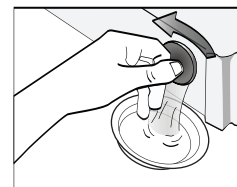

Fig 11
- 4.Reconnect the inlet pipe to tap. Remove the remaining water in drain pump (Fig11).